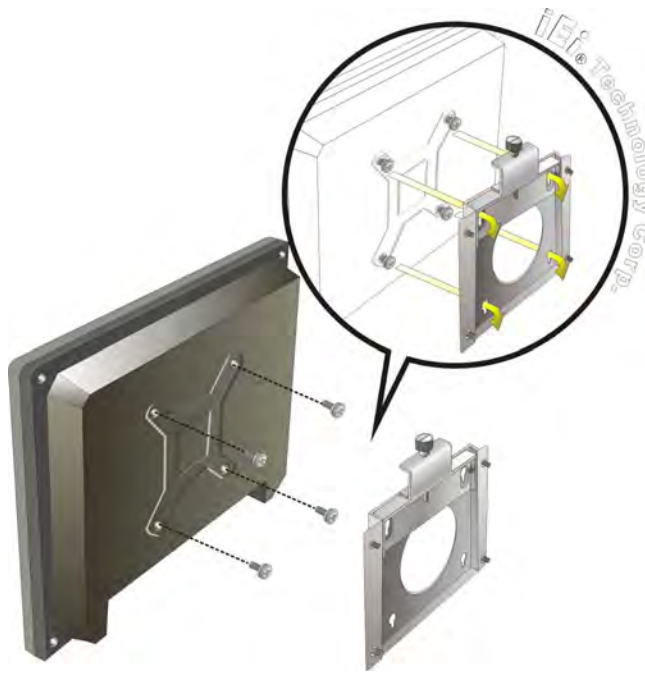

Figure 4-11: Chassis Support Screws
- Step 6:** Insert the four monitor mounting screws provided in the wall mounting kit into the four screw holes on the rear panel of the IOVU-570M and tighten until the screw shank is secured against the rear panel (Figure 4-11).
- Step 8:** Carefully insert the screws through the holes and gently pull the monitor downwards until the monitor rests securely in the slotted holes (Figure 4-11). Ensure that all four of the mounting screws fit snugly into their respective slotted holes.